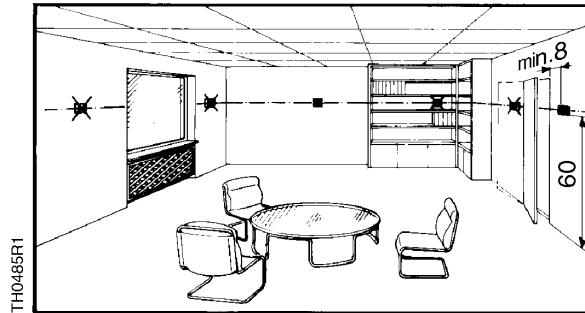

Figure 3. Acceptable Mounting Locations.
- Mount the unit on a wall of the room to be heated or cooled. Do not mount in direct sunlight or near other heat or refrigeration sources. (See Figure 3.)
- Mounting height is approximately 60 inches (150 cm) above the floor. (See Figure 3.)